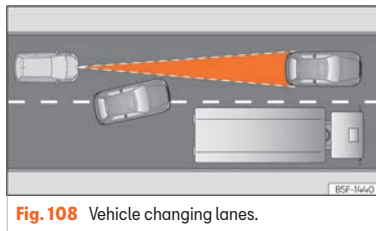

Fig. 108 Vehicle changing lanes.
- Vehicles that move into your lane, a short distance from your vehicle »» **Fig. 108.**